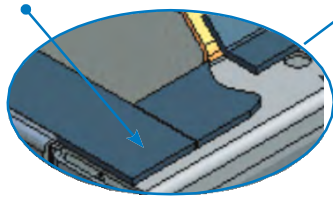

Figure 10b. Sealer Tape Locations
1. Prepare the second module's spray water basin by applying sealer tape (BAC part #554009) as shown in **Figure 10b**. Where the sealer tape meets in the corners, be sure to overlap one inch.